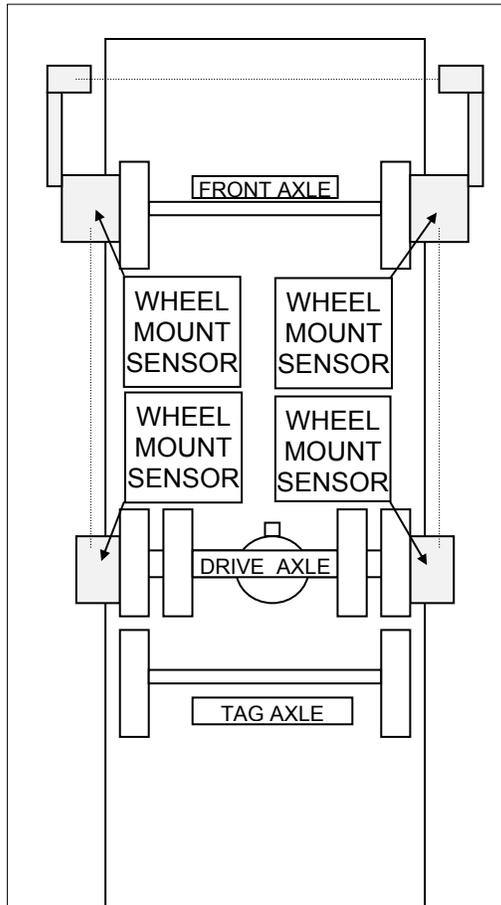
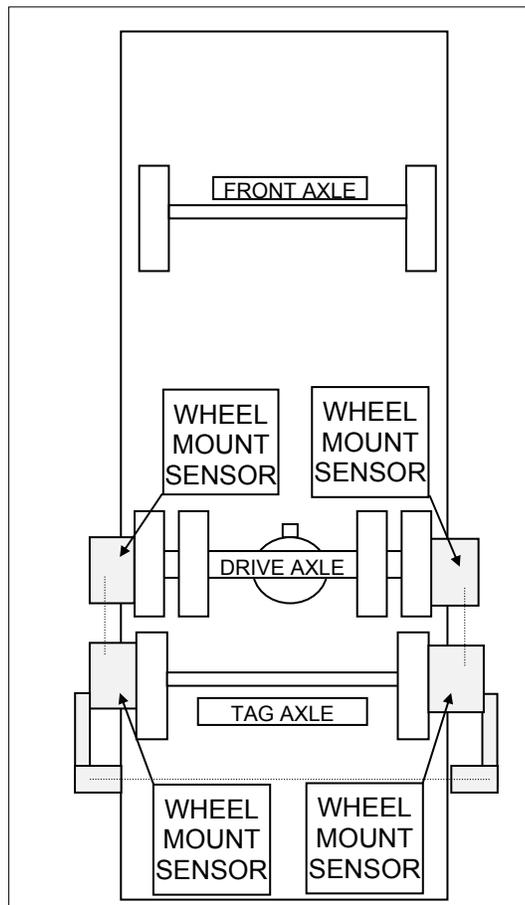

FIGURE 5: FRONT AND DRIVE AXLE ALIGNMENT
FIGURE 6: TAG AXLE ALIGNMENT
Note : See reference numbers on wheel mount sensors (fig. 5).
3. Install wheel mount sensors on front and drive axles (fig. 5). Adjust front axle according to appropriate specifications chart below.
- With the system installed as for front axle alignment (fig.5), adjust drive axle according to specifications' chart below.
- Remove and reinstall all wheel mount sensors on the drive and tag axles (fig. 6);
Note : Reinstall wheel mount sensors as shown in figure 6. For example, the sensor from the right side of the front axle is mounted on the left side of the tag axle. For corresponding wheel mount sensor reference numbers, refer to figure 5.